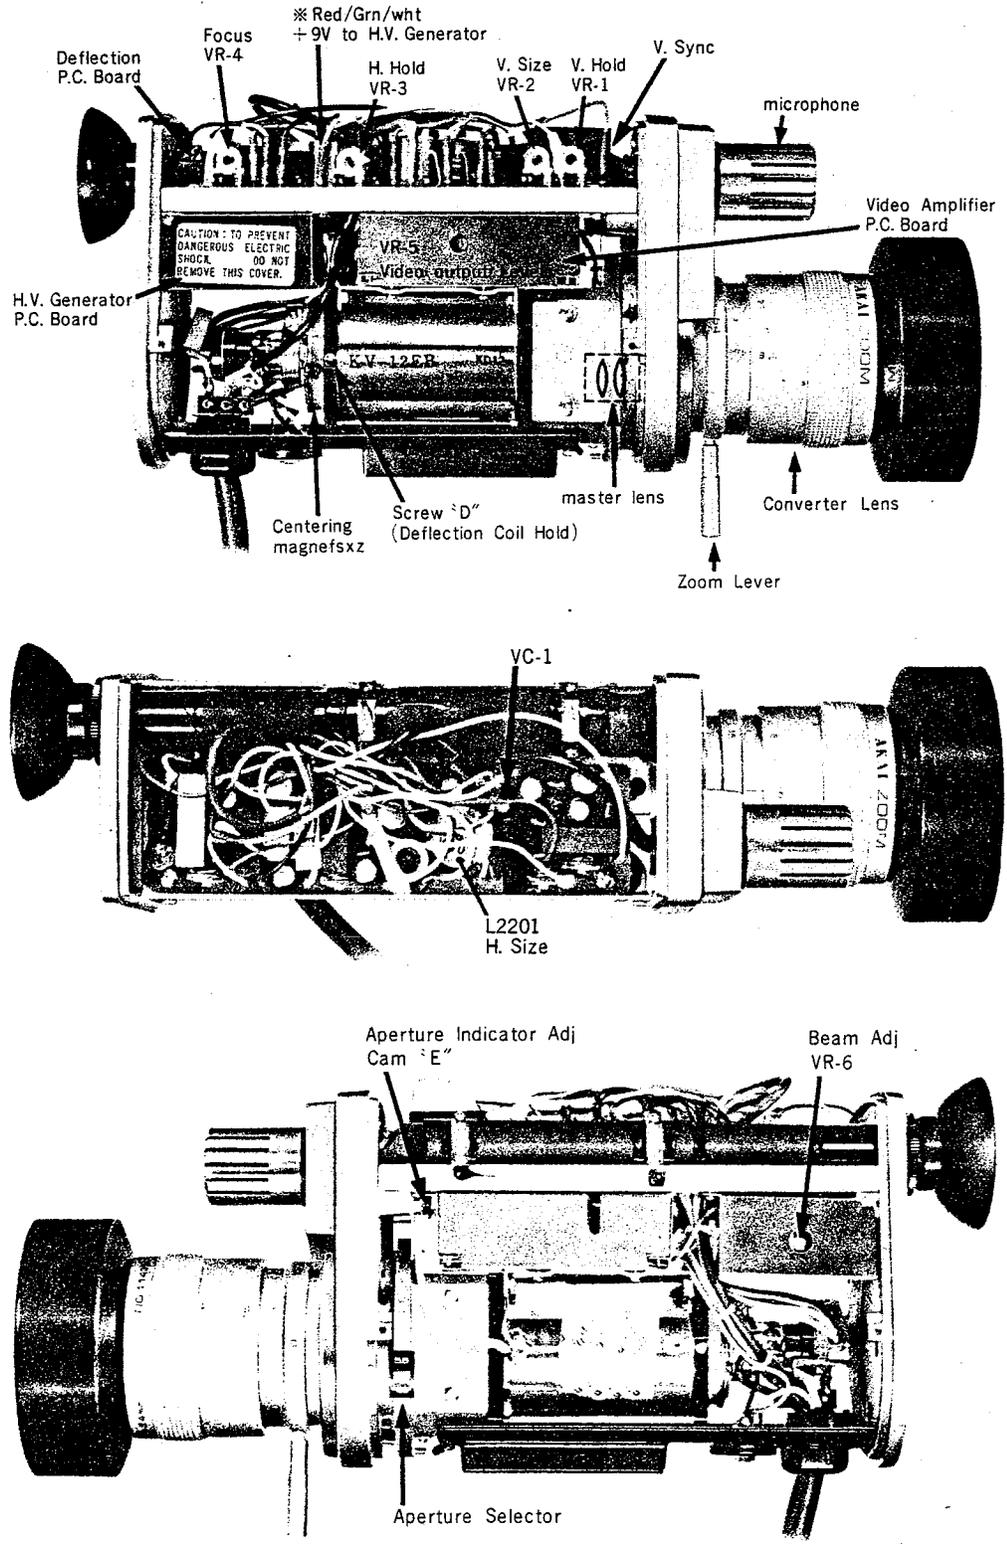
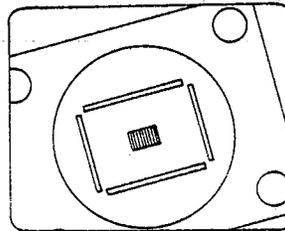

Fig. 2
Fig. 6 Tilted picture
- (a) Disconnect Red/Grn/Wht +9 V voltage supply lead wire from Deflection P.C. Board to High Voltage Generator P.C. Board (marked "※" at upper part of Fig. 2).
If picture on monitor screen is tilted as shown in Fig. 6, loosen deflection coil holding screw (Screw "D", Fig. 2), and turn deflection coil until picture is straight.